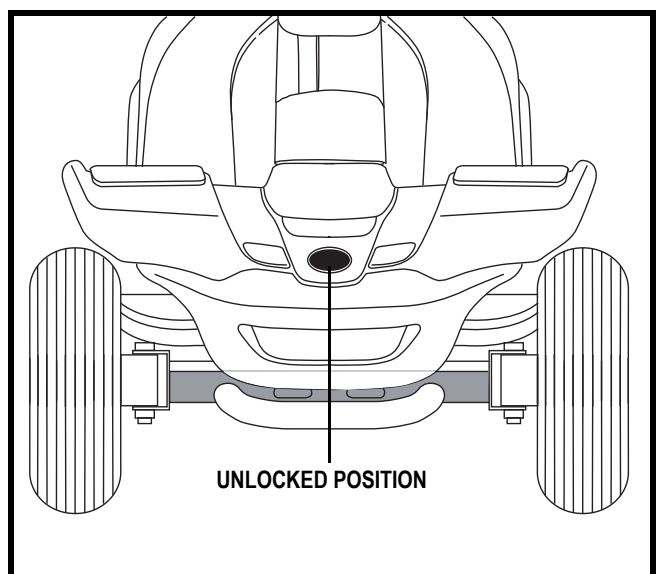

Figure 21A. Tiller Lock Knob (Unlocked)
- Unlock the front wheel by turning the tiller lock knob 90° counterclockwise. See figure 21A.